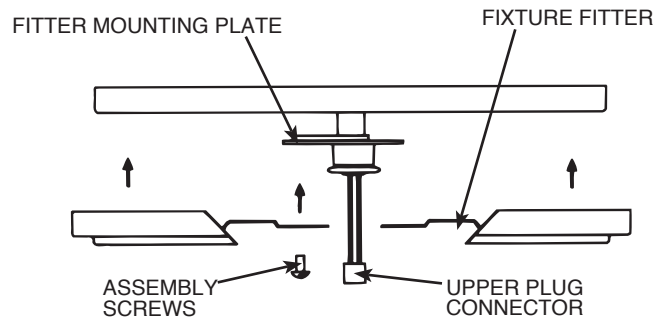

Figure 9
A. Assemble the fixture fitter to the fitter mounting plate by inserting the upper plug connector through the hole in the center of the fitter and securing the fitter to the mounting plate using (3) 3/8" long phillips round head screws with lockwashers. Tighten the (3) screws securely. See Figure 9.